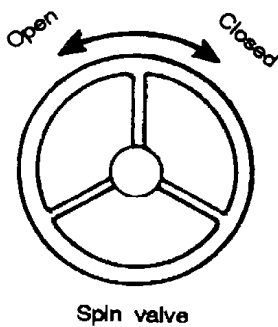

Figure 10 - Primary Air Control
2. Open the primary air control (spin valve) by turning it fully anticlockwise (see Figure 10).